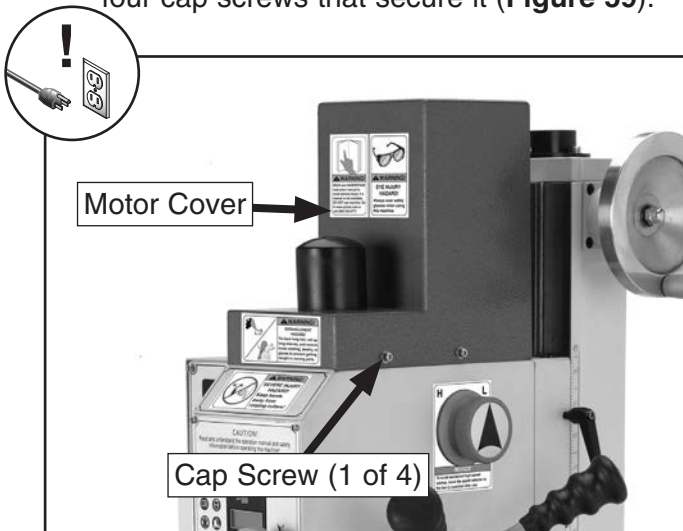

Figure 59. Removing motor cover.
2. Un-install the motor cover by removing the four cap screws that secure it (**Figure 59**).